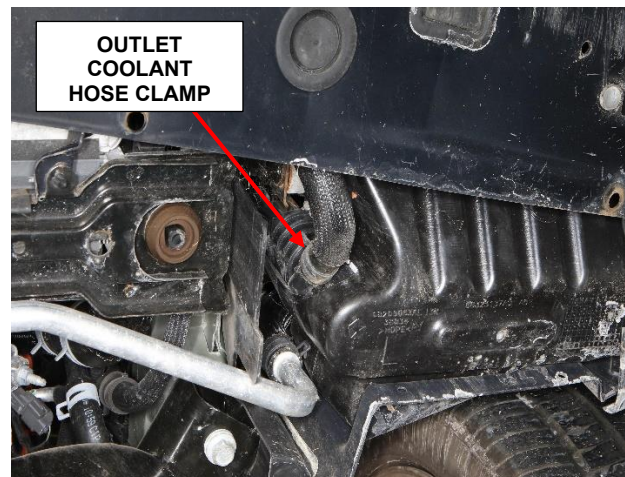

Figure 4 - Low Temperature Radiator
7. Remove the outlet coolant hose clamp from the auxiliary Low Temperature Radiator (LTR) and drain the coolant into a clean container (Figure 4).